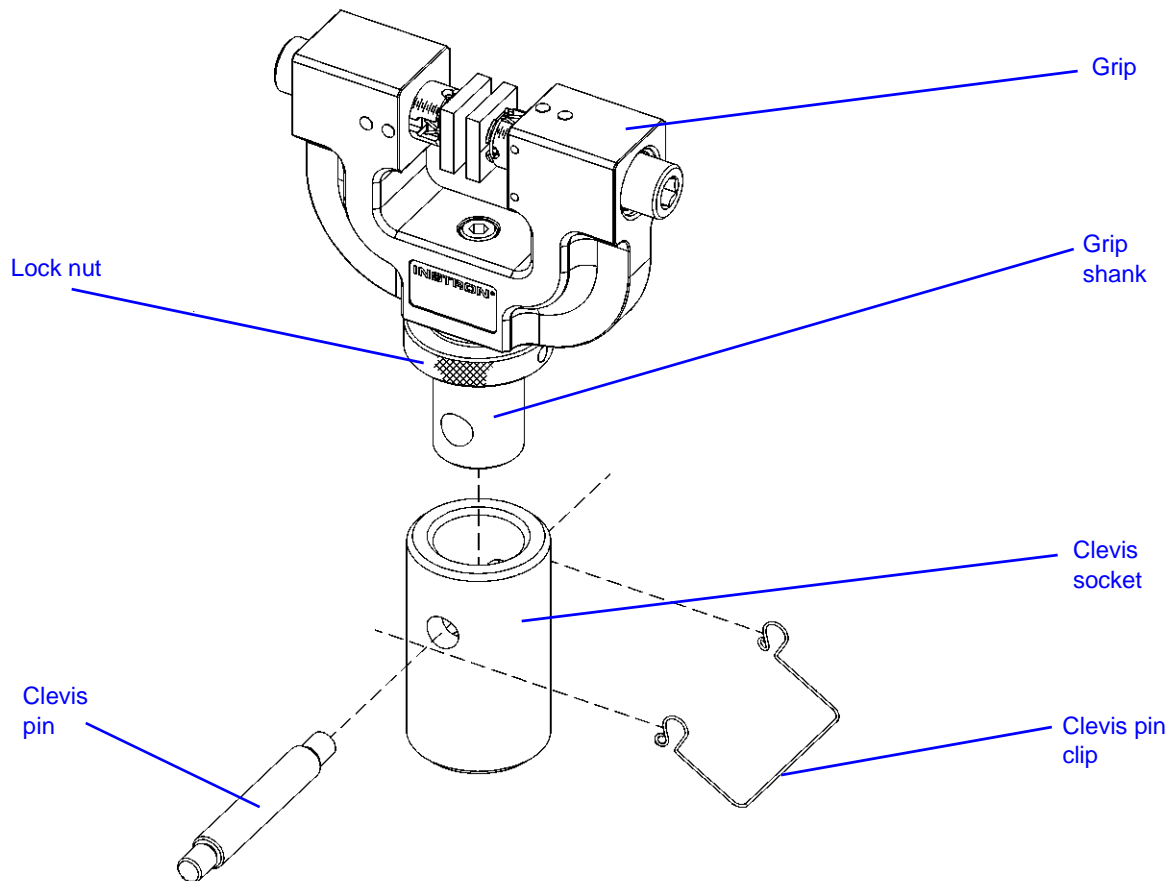

Figure 2-8. Grip with Clevis Pin Coupling
Figure 2-8 on page 2-20 shows a typical grip with clevis pin coupling.
1. For the lower grip, insert the adapter on the grip into the female clevis socket on the load frame base adapter, as shown in Figure 2-8 on page 2-20.